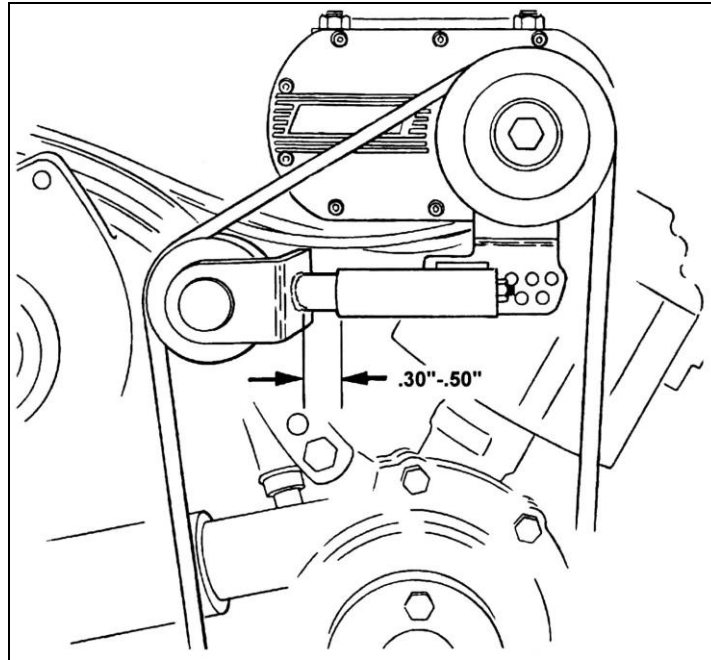

Figure 3
**STEP 9.** Install and tighten the accessory belts. Install the Poly-V belt over the lower drive pulley, driven pulley, and idler pulley(s). Loosen the nut on the threaded rod on the back of the idler to let the idler pulley tension the belt. When the nut is loose, measure the distance between the pulley support and the end of the fixed tube of the idler as shown in Figure 3. This dimension should be between .30" and .50" (5/16" and 1/2"). If the measured dimension is outside of this range, the idler will have to be moved in or out. Due to manufacturing tolerances on belts, the final position of the idler may be different than the preliminary location.